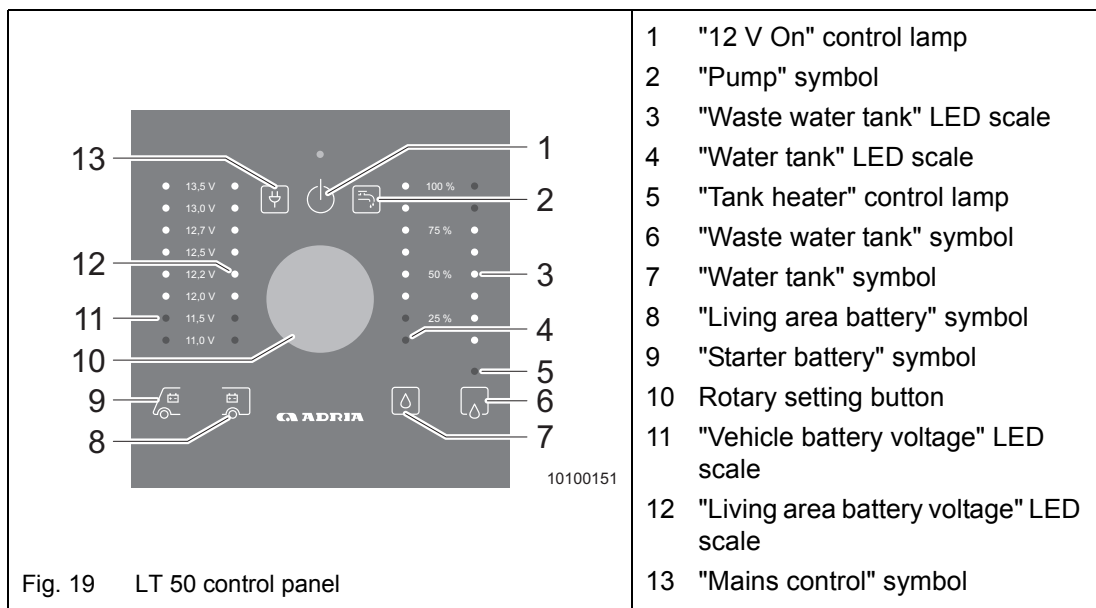

Fig. 19 LT 50 control panel
- The "Mains control" symbol (Fig. 19/13) lights and the batteries are charged.
- ➔ Briefly press the rotary setting button (Fig. 19/10) to switch the supply voltage for the 12 V appliances on or off.
- The "12 V On" control lamp (Fig. 19/1) lights when the 12 V appliances are switched on.
- ➔ Turn the rotary setting button (Fig. 19/10) until the desired battery symbol (Fig. 19/8) or (Fig. 19/9) lights.
The scale legend "Volt" (left) lights and the battery voltage of the selected battery is shown on the LED scale concerned (Fig. 19/11) or (Fig. 19/12).
- ➔ Turn the rotary setting button (Fig. 19/10) until the desired tank symbol (Fig. 19/6) or (Fig. 19/7) lights.
The scale legend "%" (right) lights or blinks and the fill level of the selected tank is shown on the LED scale concerned (Fig. 19/3) or (Fig. 19/4).
- ➔ Turn the rotary setting button (Fig. 19/10) until the water tank fill level is shown on the LED scale (Fig. 19/4).
The pump is on when the "Pump" symbol (Fig. 19/2) lights.
- ➔ Press the rotary setting button (Fig. 19/10) to change the switched state.
The "Pump" symbol (Fig. 19/2) lights or goes off. The 12 V supply of the pump is switched on or off.
- ➔ Turn the rotary setting button (Fig. 19/10) until the waste water tank fill level is shown on the LED scale (Fig. 19/3).
The tank heater is on when the red LED (Fig. 19/5) above the "Waste water tank" symbol (Fig. 19/6) lights.
The red LED (Fig. 19/5) lights or switches off. The 12 V supply of the tank heater is switched on or off.